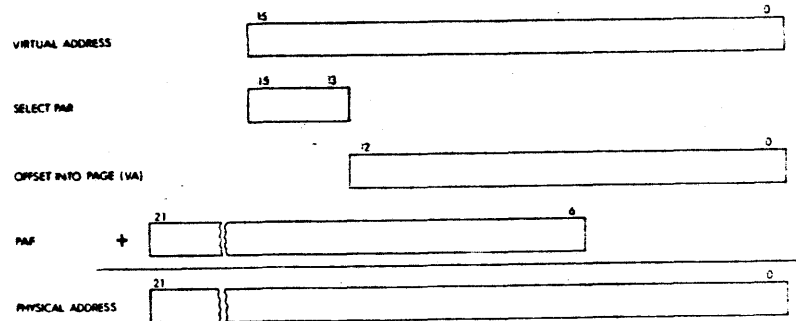

Figure 2-6 Construction of a Physical Address
The formation of the Physical Address (PA) is illustrated in Figure 2-6.